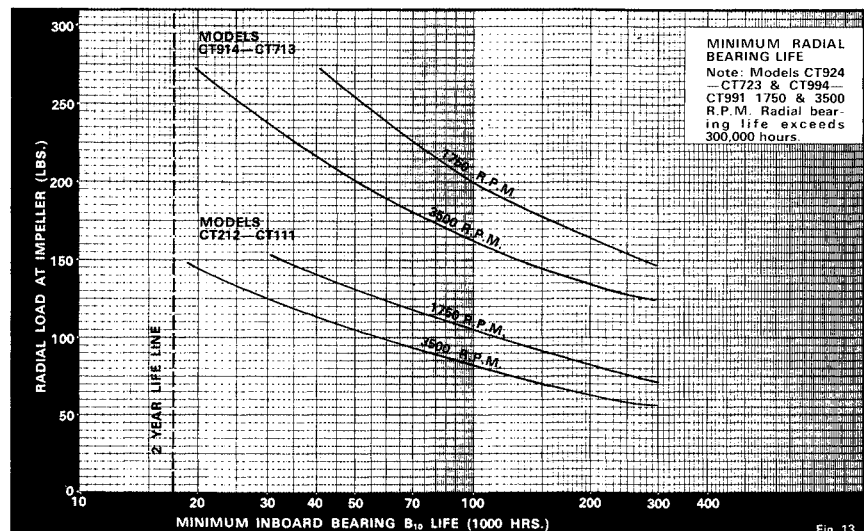

Fig. 13
3. Locate radial load at impeller in pounds on figure 13 and read across to the proper pump size and R.P.M. and then down for inboard radial bearing life.